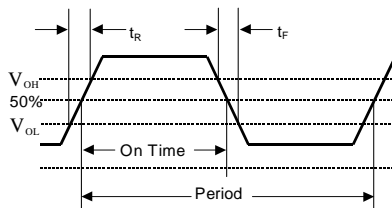
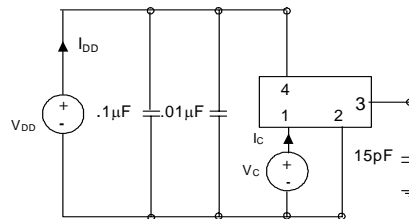

Figure 1. Output Waveform
Figure 2. Typical Output Test Conditions (25±5°C)
2. Figure 1 defines these parameters. Figure 2 illustrates the operating conditions under which these parameters are tested and specified. For  $f_o > 90\text{MHz}$ , rise and fall time is measured 20 to 80%.